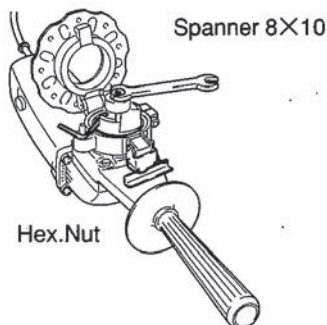

Fig. 12
- (2) Use the accessory Spanner 8 x 10 to loosen the nut, and remove the O.D.22mm Guide Sleeve. (Fig.12)